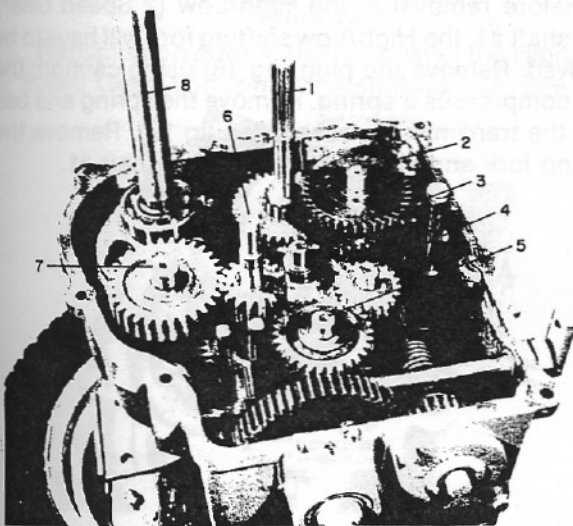

Figure 8
13. Note figure 8. The shafts are numbered for identification *only*. The shafts are pictured and described in removal sequence to give the least amount of difficulty in removing from the transmission case. The shafts may be removed in any sequence as required for repair of the transmission.